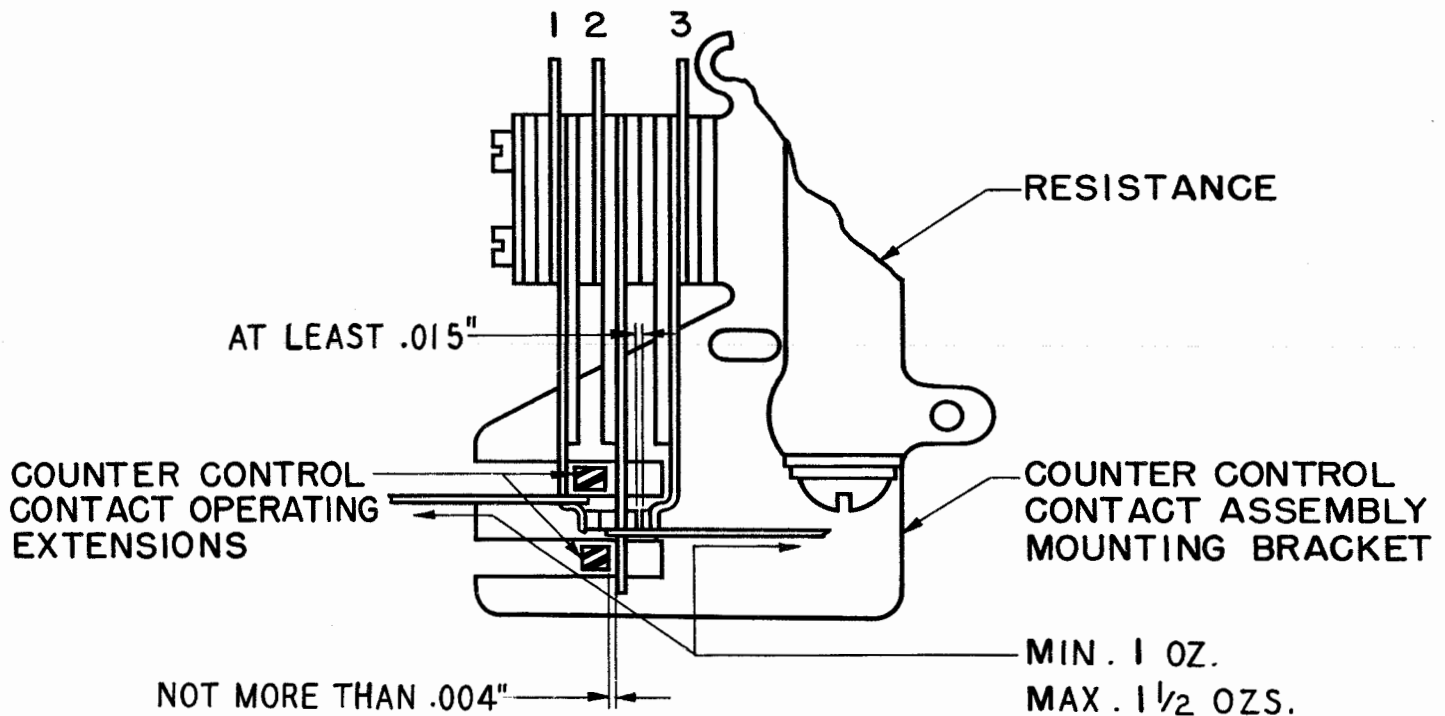

Figure 45
4.03 Counter-control-contact Springs should meet squarely. Gauge by eye. See Figure 45.
4.05 Counter-control Contacts on No. 1 and No. 2 springs should separate when a force of minimum 1 ounce, maximum 1-1/2 ounces is applied to either the No. 1 or No. 2 springs. See Figure 45.